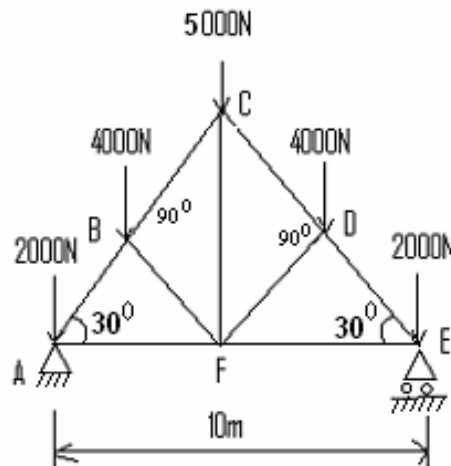

Figure.3
5. Determine the forces in the various members of the truss shown in Figure.3. [15]